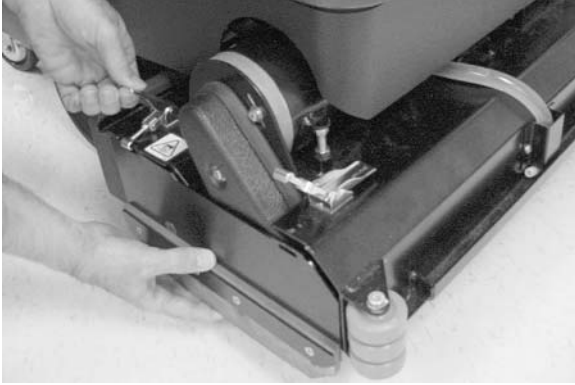

FIG. 24
2. Remove the idler plate from scrub head by releasing latches on top of scrub head (Figure 24).